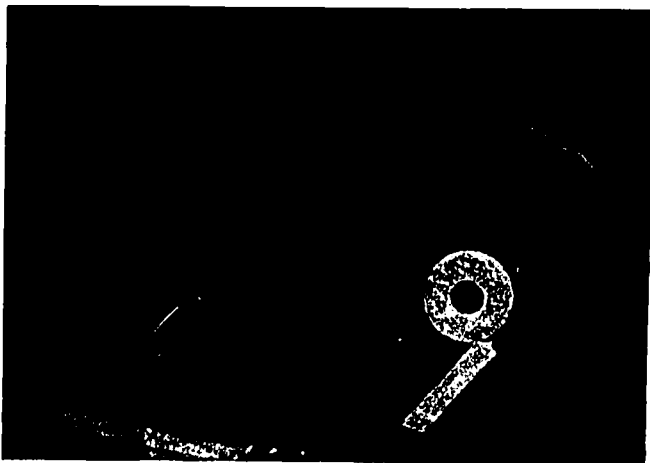

Fig. 4G-11. Gluing Tube to Disk
- one end of the tube. See Fig. 4G-11. Set the completed engine mount aside to dry.